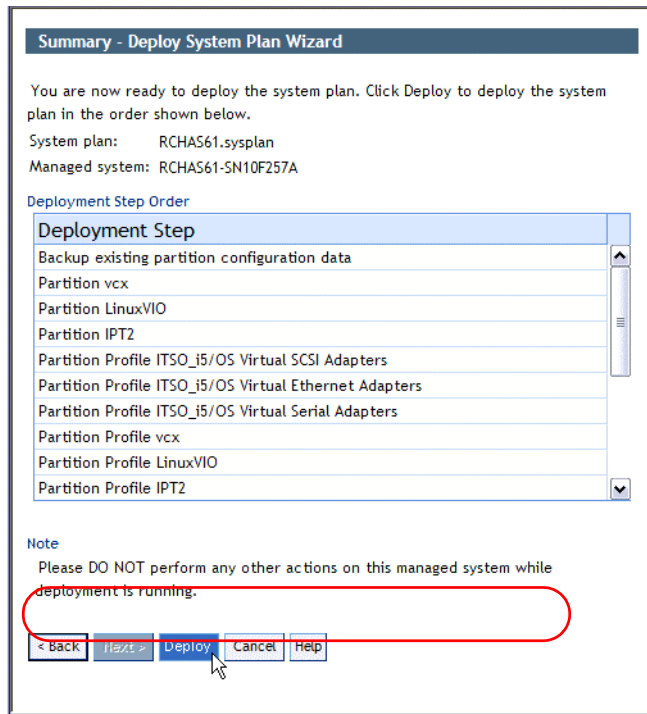

Figure 4-31 Ready to deploy
5. Figure 4-31 shows the last panel before running the deployment. There is a summary of all the steps that the HMC performs. Click **Deploy** to start the operations.